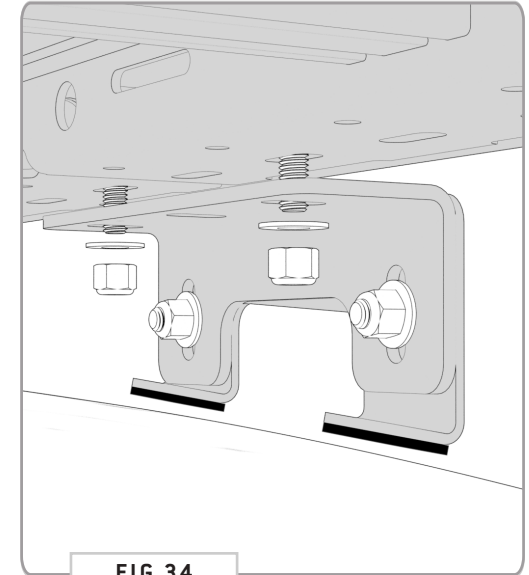

FIG 34
**12.2 Attach Support Bracket Assemblies to Rack:** Mount the **Support Bracket Assemblies** to the **Safari Rack** in the location shown in FIG 34 using (2ea) 3/8-16 X 1 Button Head Hex Drive Screws, 3/8 Screw Flat Washers and 3/8-16 Nylon Locknuts. Note that the **Support Foot Bracket** just overlaps onto the **Side Rail** enough to catch one hole.